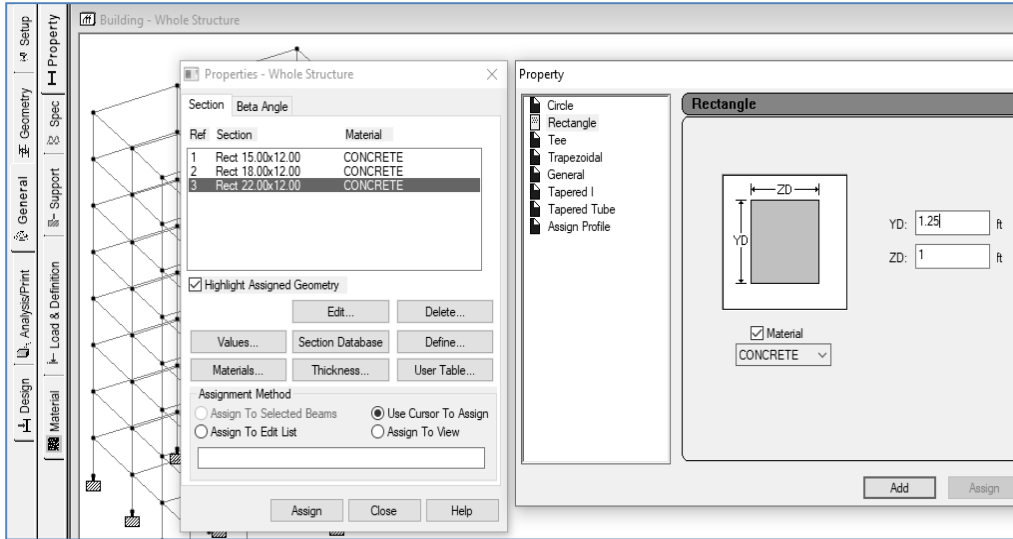

Fig: 5.13
2.2.2 Column & Beam Define: From left side Click on General →Property →Define →Rectangle →YD=1.25 ft, ZD=1 ft (For column C1) →Add. (Fig: 5.13)